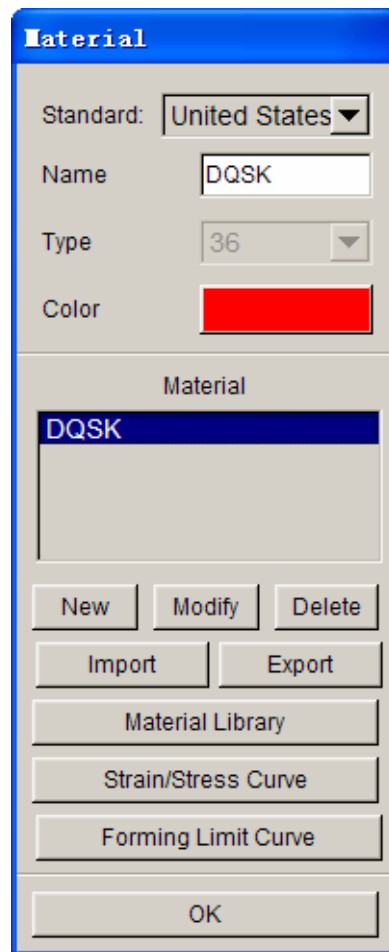

Figure 3.18: Define Material dialog box
- Click “OK” to return to the Material dialogue window, then user may find the selected material type has already been added to Material List. See figure 3.18.